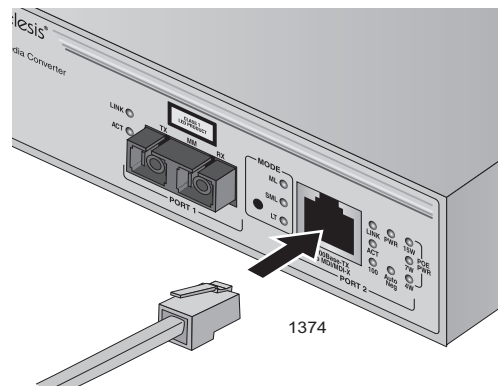

Figure 11. Connecting to the RJ-45 Copper Ports
1. Connect a twisted pair cable with an RJ-45 connector to the 10/100Base-TX port, as shown in Figure 11.